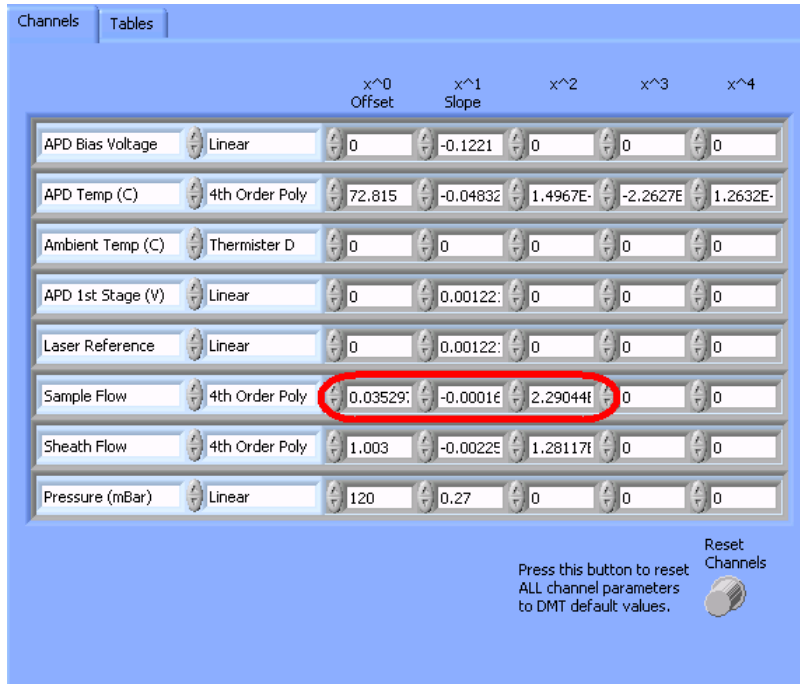

Figure 3: Entering New Coefficients in PADS 3.X
- 5.) Enter the new values in the appropriate fields (Figure 3).